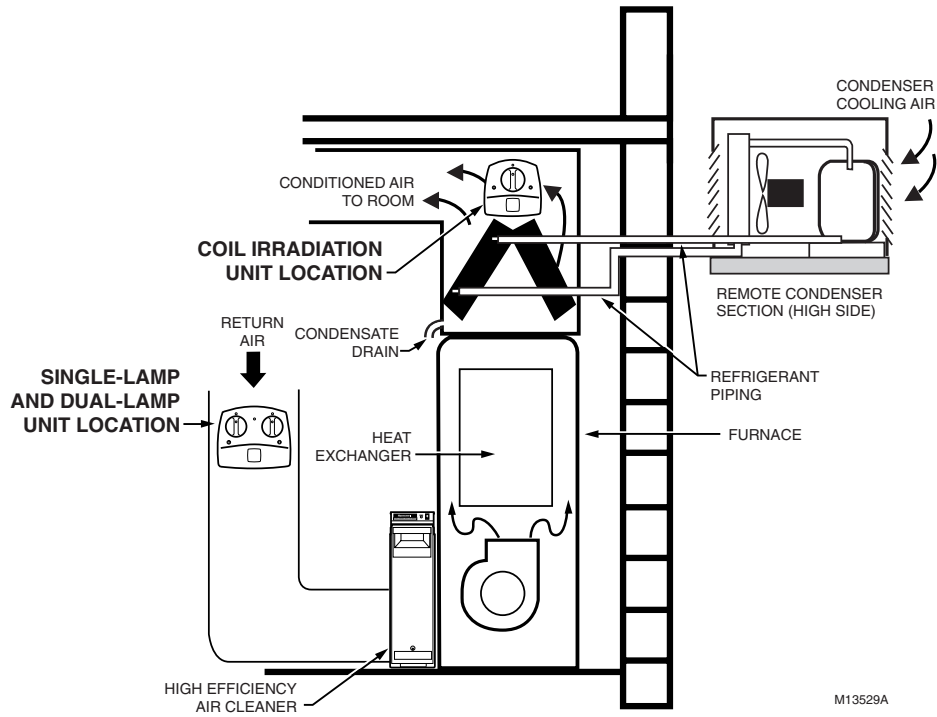

Fig. 1. Possible mounting locations for Ultraviolet Air Treatment Systems.
2. Determine the location for installation (see Fig. 1):